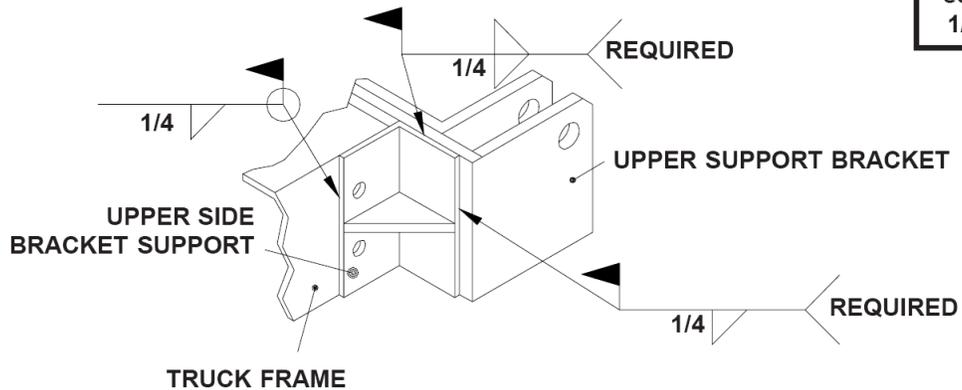

Figure 6A
8. After attaching the Upper Support Brackets, attach the Upper Side Support (PN 2725441-0000), as shown in Figures 6A-6C. Where these parts contact the Upper Support Brackets, they must be welded as shown. Again, the front part of these brackets can be either bolted or welded. (Note: If there is interference with the truck's rear leaf spring hangers; weld two 45° x 50 mm [2"] wide gussets per side; top and bottom, in place of the side bracket.)